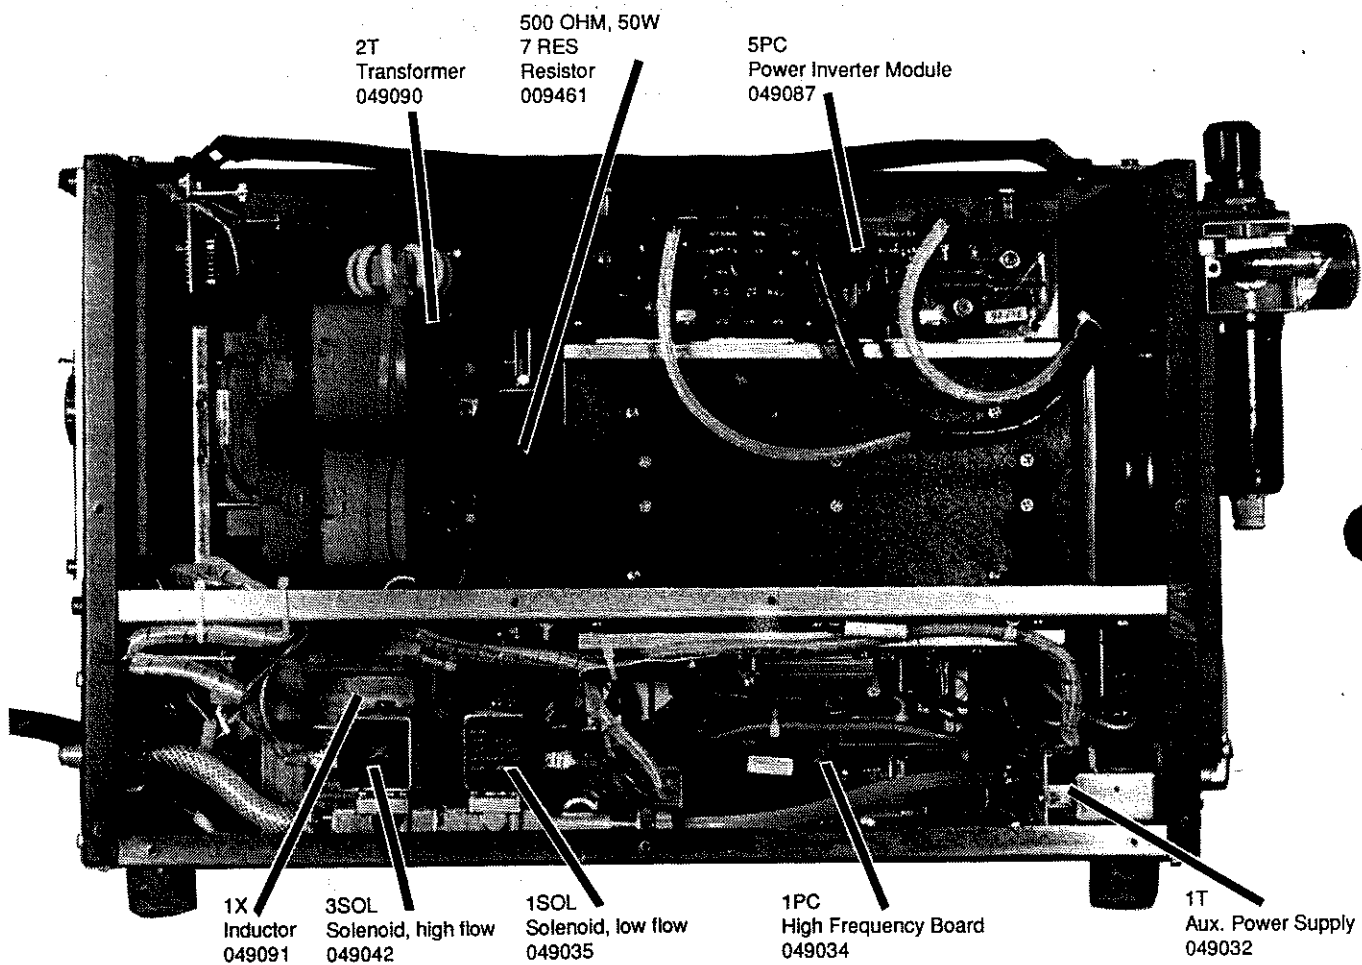

Figure 5
- Figure 5 -- MAX81 Power Supply -- Right Side -- 380 Volt, Three